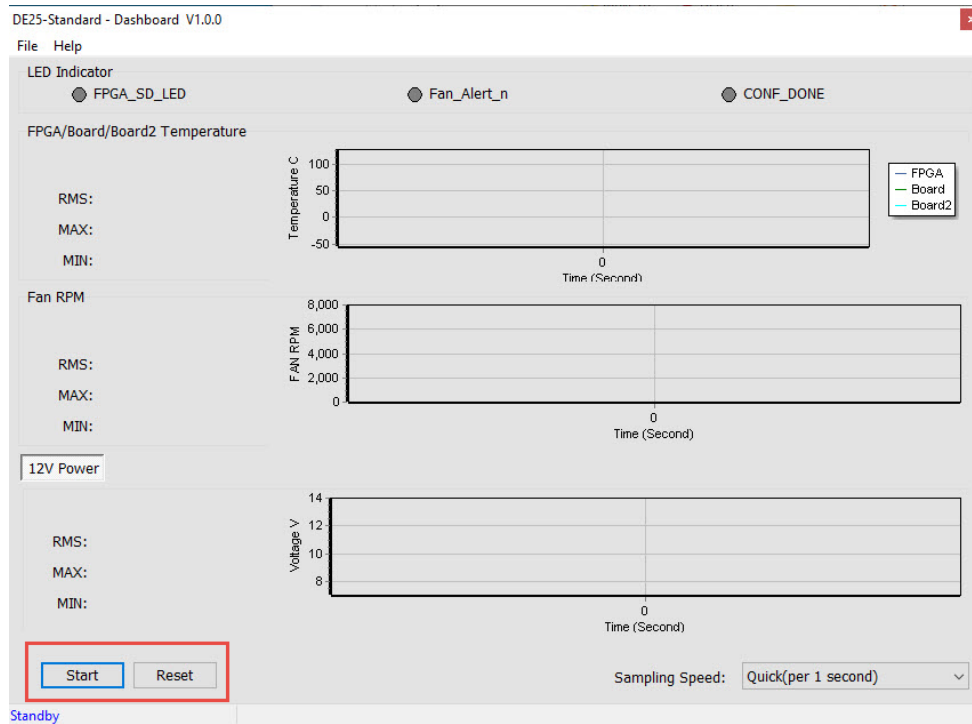

Figure 4-7 Start and Reset button
- **Start/Stop:** As shown in Figure 4-7, there is a Start button at the bottom-left of the GUI window. Click it to run the program (Start will change to Stop). The DE25-Standard status will be displayed. Users can press Stop button to stop the status data transmission and display.